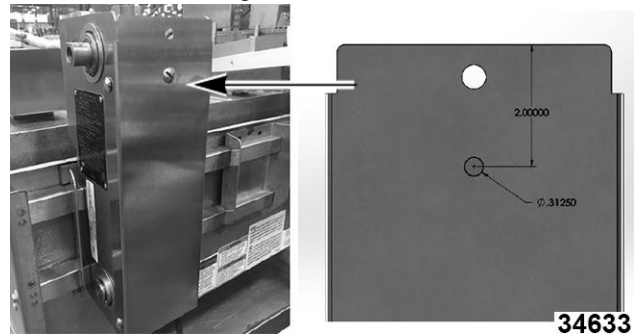

Fig. 20
- Drill 5/16" inch hole 2" inches from edge of cover as shown in Fig. 20.